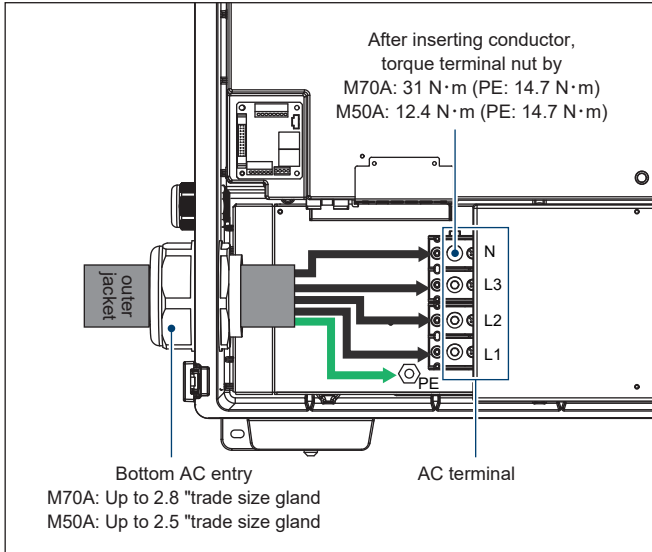

Figure 3-15: Location for AC terminal
Figure 3-15 illustrates the location of the AC conduit entry and connections to the AC terminal block:
- After conductor is inserted, use 8 mm hex wrench to tight L1, L2, L3, N terminal with the torque shown as **Figure 3-15**.